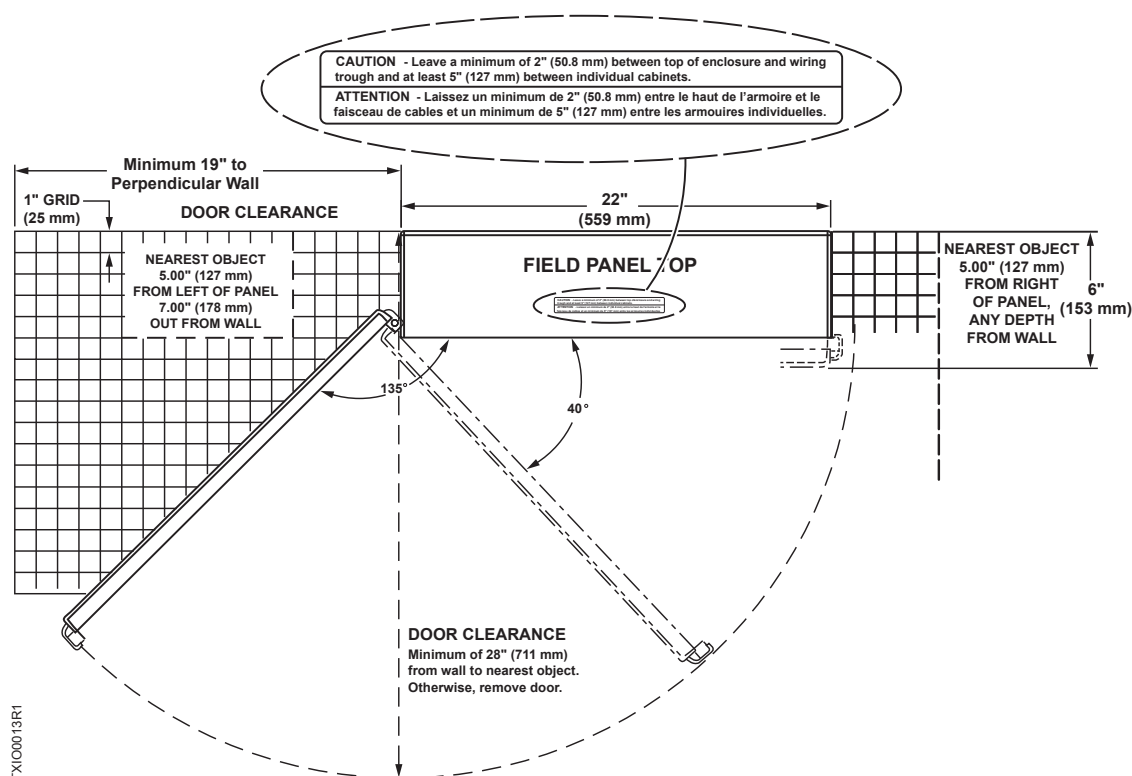
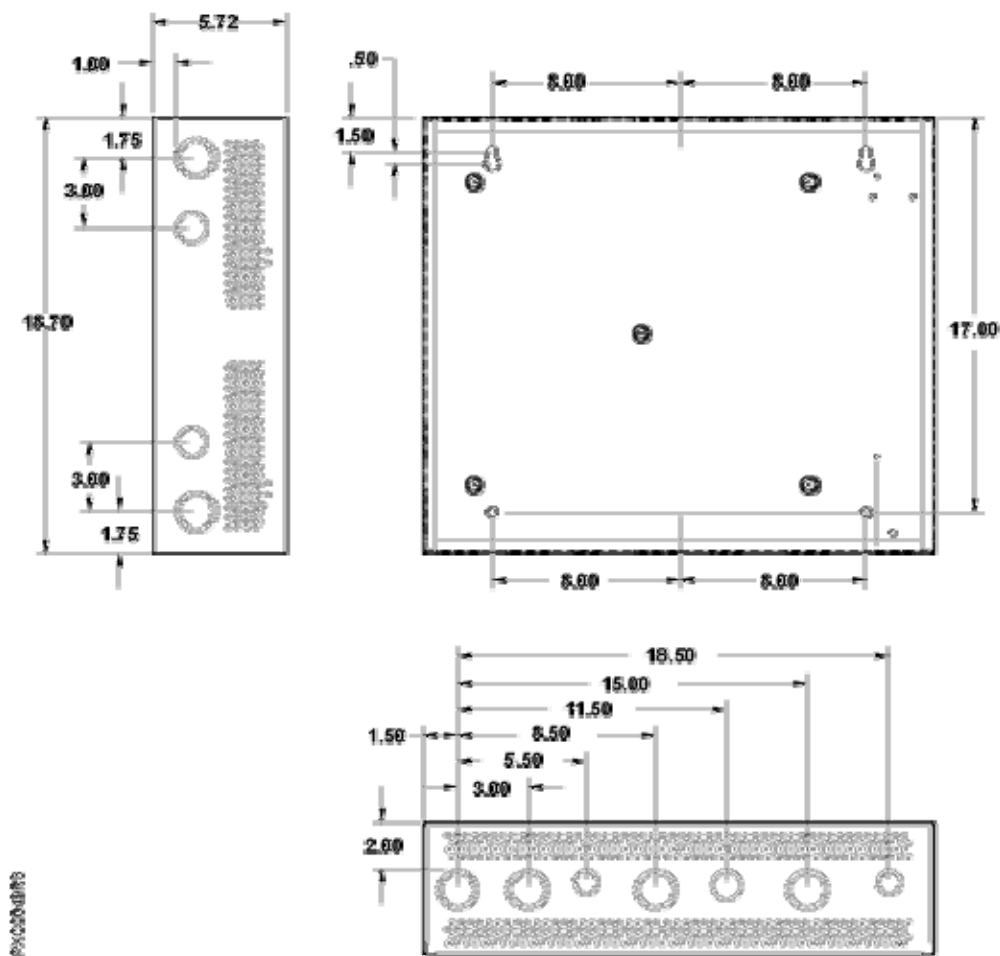
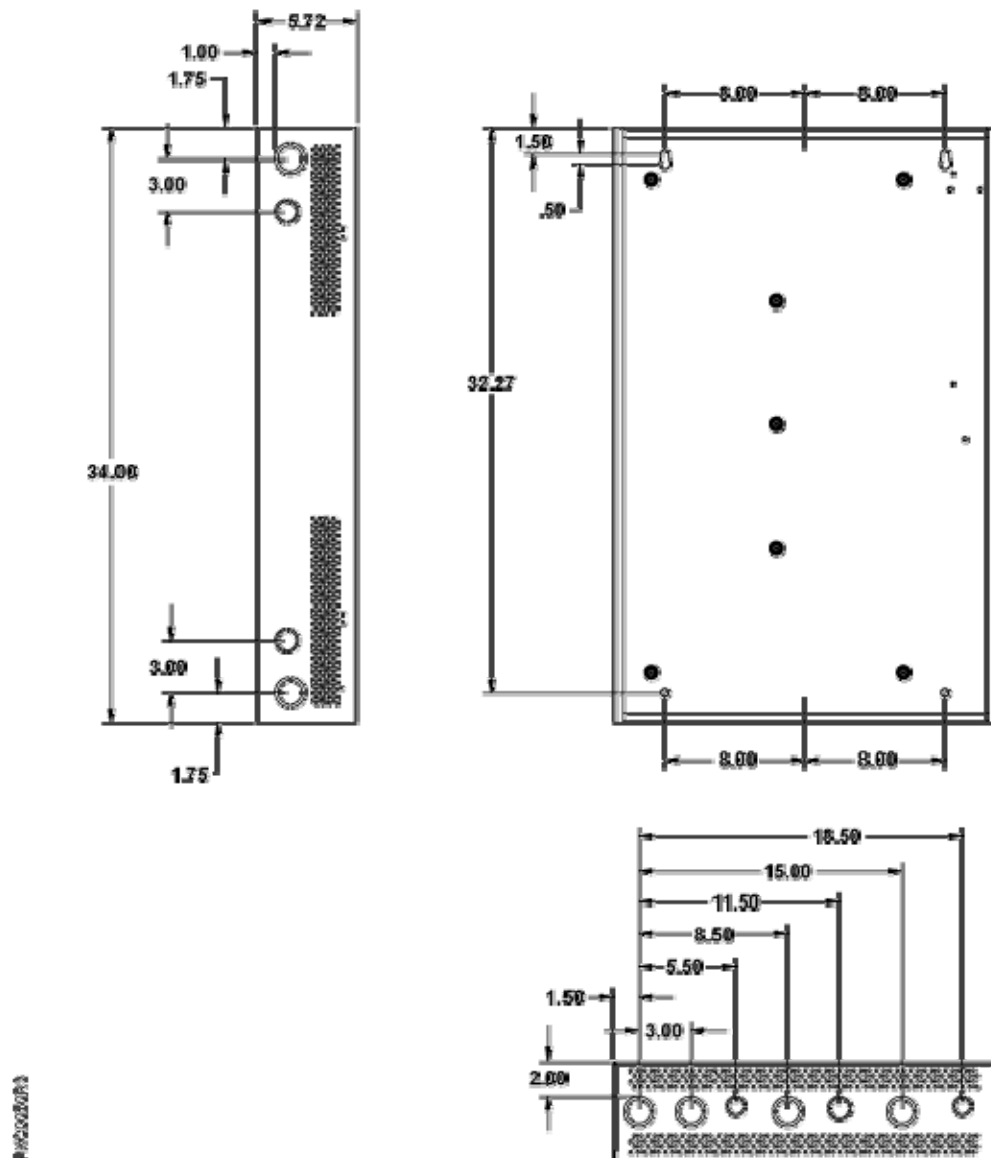
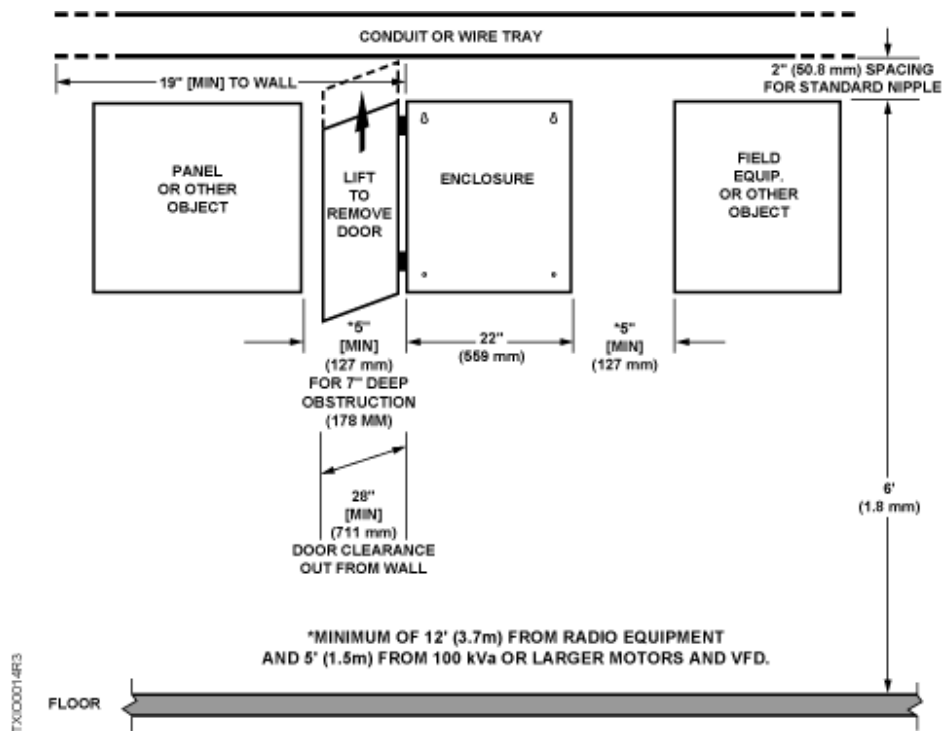

Figure 3. Spacing Requirements.
Figure 4. 19" PX Series Enclosure Dimensions.
Figure 5. 34" PX Series Enclosure Dimensions.
Figure 6. 19" and 34" PX Series Enclosure Placement.
See Figures 4 and 5 for enclosure dimensions.
1. Determine the mounting location of the enclosure using the spacing requirements shown in Figure 3 and Figure 6. See Figure 4 and Figure 5 for panel dimensions.
- Minimum spacing between the panel and any left (hinged side) obstruction is 1 inch spacing for every 1 inch of depth, starting at 5 inches (127 mm) to the left (see Figure 6).
- Minimum spacing between the panel and any right (lock side) obstruction is 5 inches (127 mm) to the right at any depth (see Figure 6).
14. Run conduit and pull wires into the panel. Be sure to leave enough wire for future changes or additions, and to allow for full door swing clearance (see Figure 6).